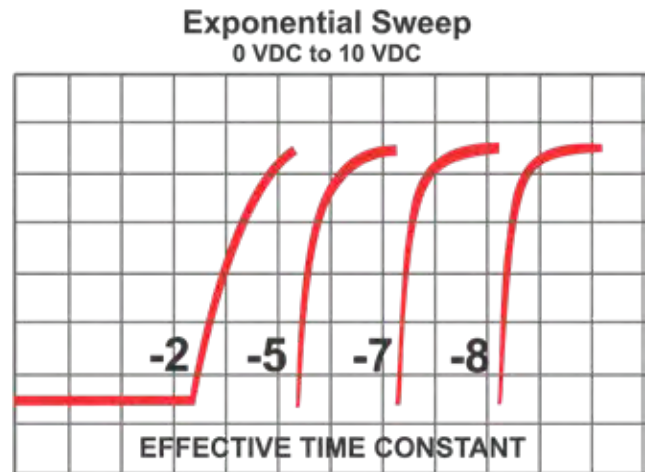

Figure 5.18 – Comparison of Effective Time Constant Value Settings
9. Run the test sequence. The resulting output should be similar to that shown in **Figure 5.18**. Note that higher values for the effective time constant property will result in a steeper slope on the exponential.